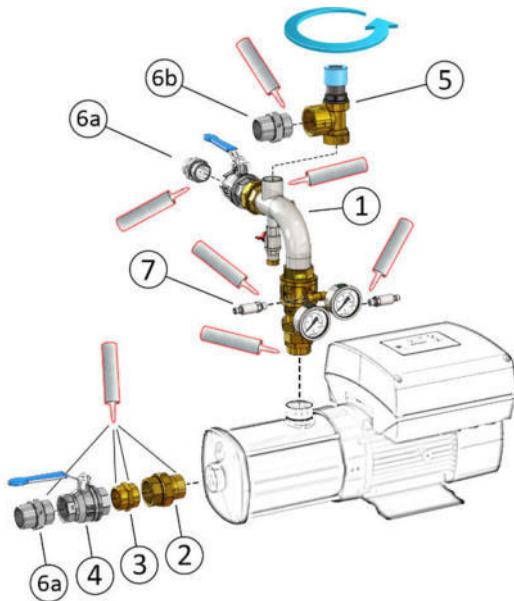

Figure 8 Thread sealing application and safety valve orientation
The pumps are delivered as subassemblies (item 1) and separate parts (items 2–7), as shown in *Figure 8* . All threaded connections must be assembled using a suitable thread sealant, such as Loctite 577 or PermaBond A1044. Refer to the technical data sheet for proper application and usage instructions.
The pump kit and safety valve (items 1 and 5 in *Figure 8*) shall be positioned to allow easy piping and drainage.